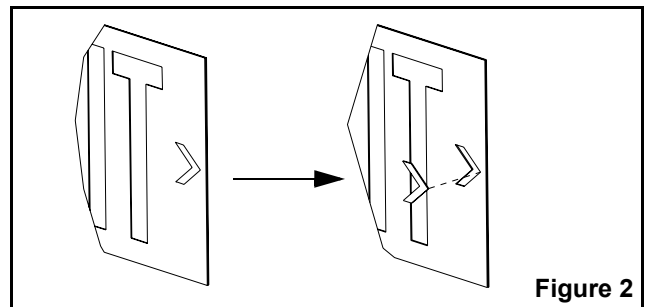

Figure 2
4. Remove the appropriate chevron(s) on the exit sign by supporting the exit face on either side of the chevron and carefully knock out with a screwdriver from the rear (see fig. 2).